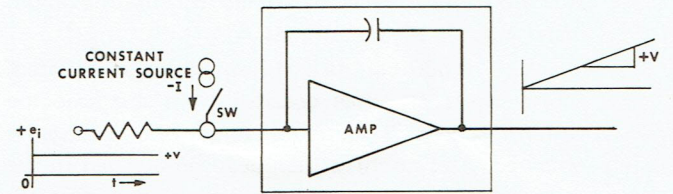

Figure 8 Integrator Operation
3.2 Analog Board (See Figures 8 through 12)
These meters operate using the principle of dual slope integration. This technique operates by feeding an unknown voltage through a resistor to the noninverting input of an amplifier with capacitive feedback (illustrated in Figure 8). The output is a ramp voltage with slope proportional to the magnitude of the input voltage. The larger the input voltage, the greater the slope of the output voltage.
4. CALIBRATION (See Figure 8)